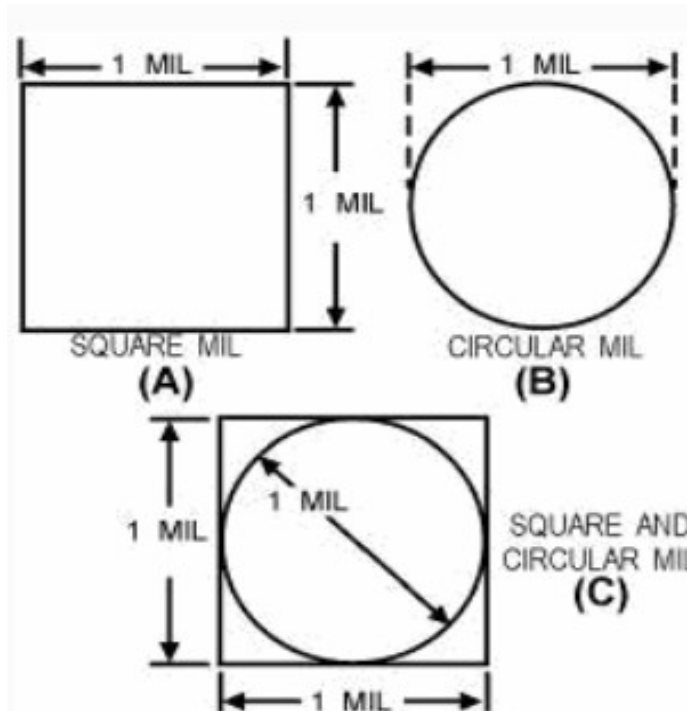

Figure 1-2.—A comparison of circular and square mils.
- A circular mil is the area of a circle having a diameter of 1 mil, as shown in view B of figure 1-2.